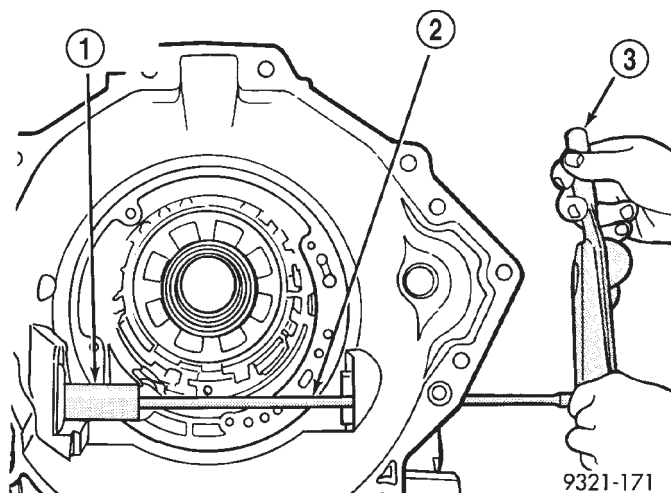

Fig. 409 Special Tool 6548
(29) Insert special tool 6548 (Fig. 409). This tool will be used to check turning torque of the differential assembly.